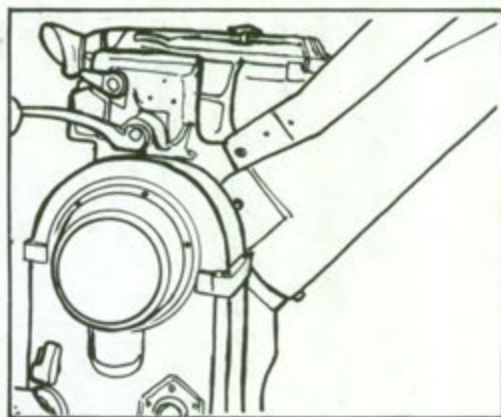

Figure 11. Install launch tube.
a. Raise the forward end of the launch tube slightly and place the mounting lugs in the trunnion fittings (figure 11).